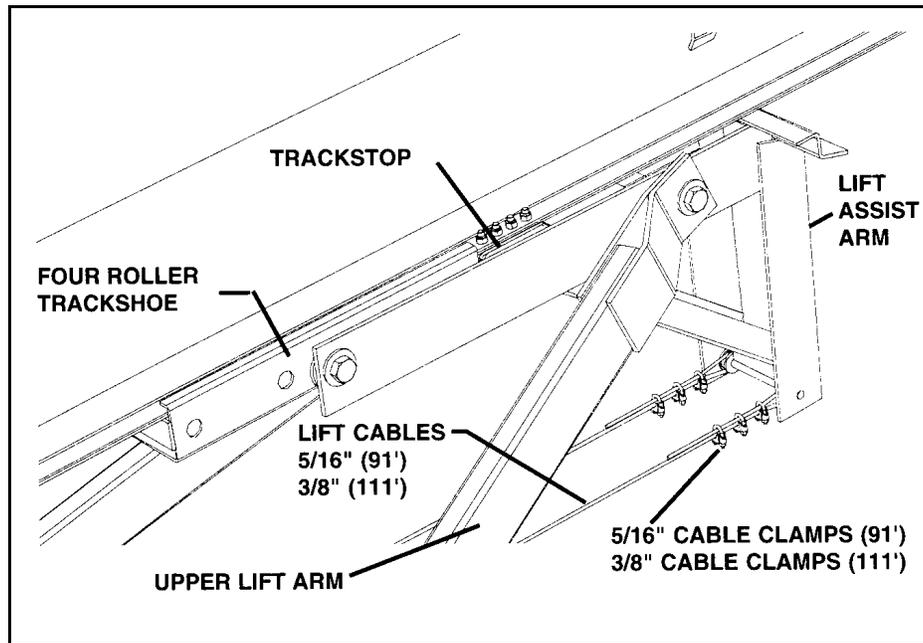

Figure 3.20
2. Thread the lift cables over the respective pulleys on the lift-assist arm, pull cables tight, and secure with 3 cable clamps on each cable (5/16" on 91', 3/8" on 111'). **Tighten securely.** Do not crisscross cables (Figure 3.20).